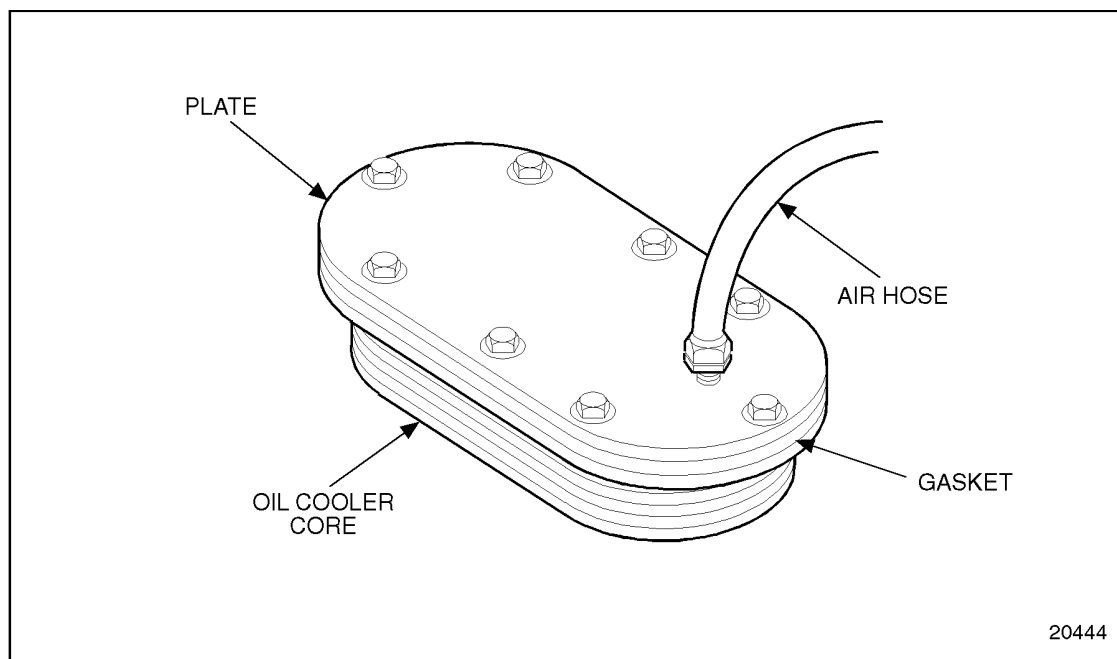

Figure 3-25 Preparing Oil Cooler Core for Pressure Test
2. Drill and tap the plate prior to mounting to permit an air hose fitting to be attached at the inlet side of the core. See Figure 3-25.